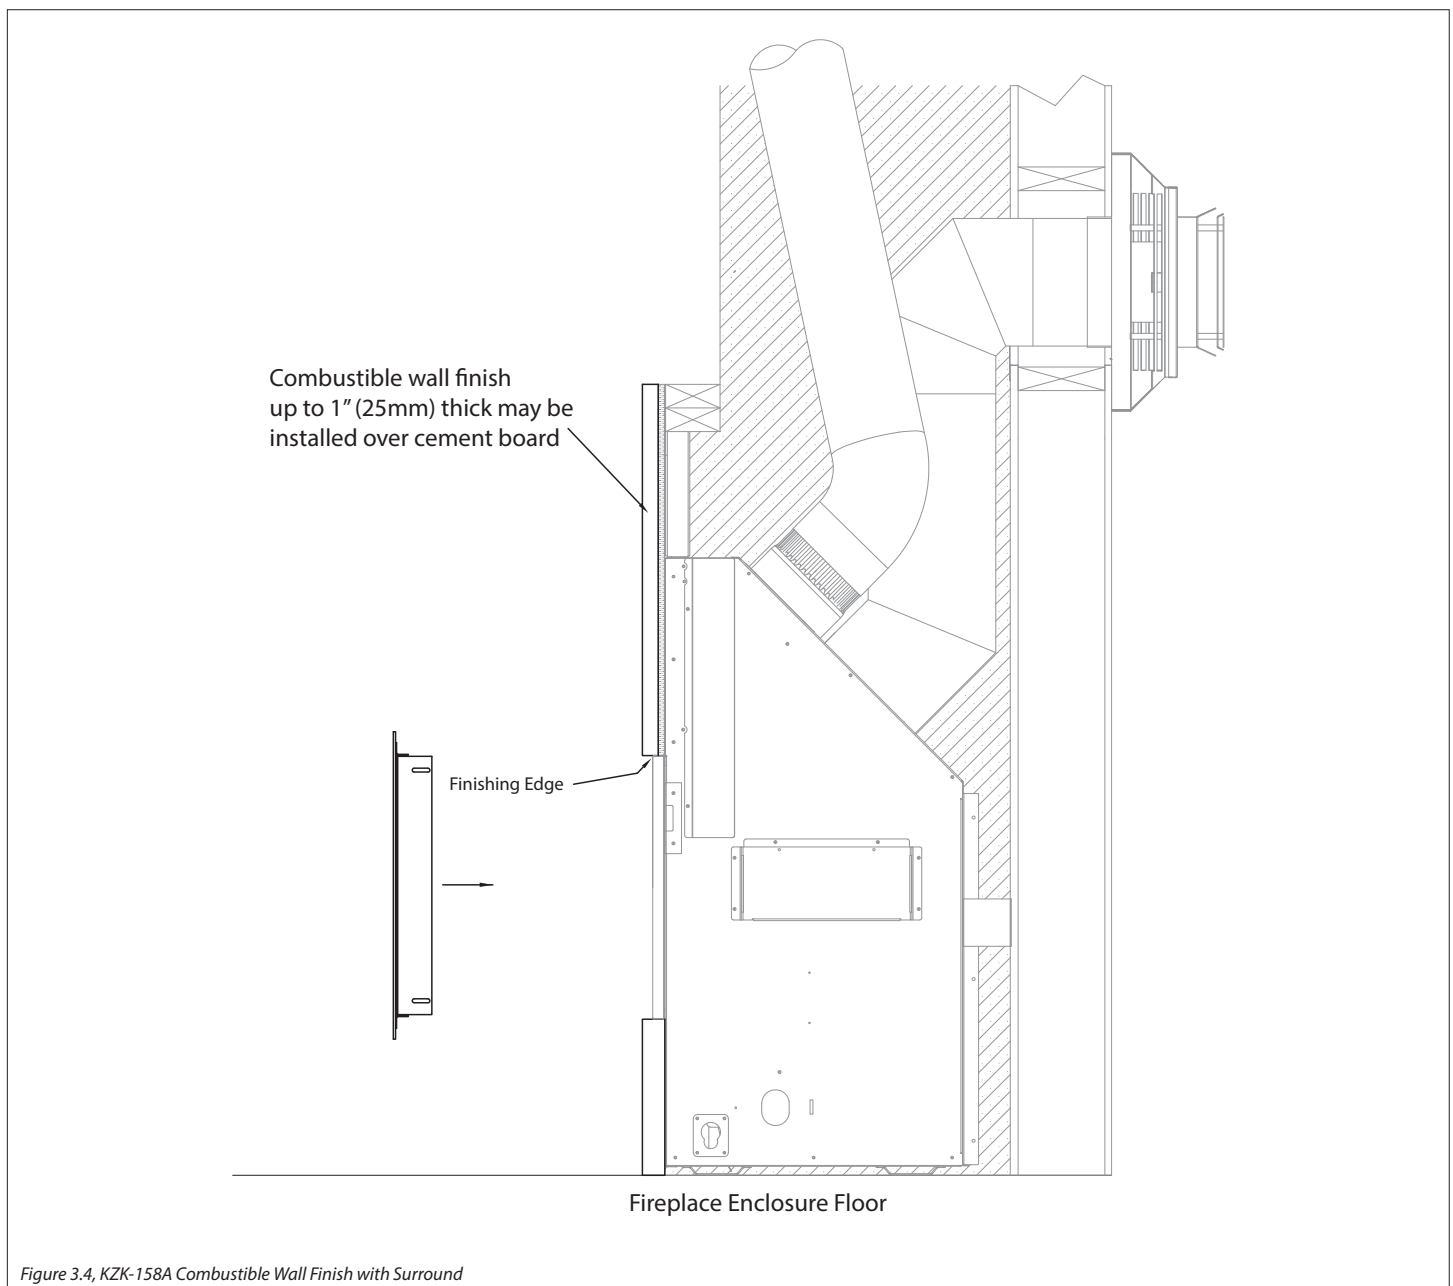

Figure 3.4, KZK-158A Combustible Wall Finish with Surround
- Figure 3.4 shows installation of combustible wall finish up to 1" thick. This combustible material goes on any required non-combustible materials as required in Figures 3.1 and 3.2 on page 10.